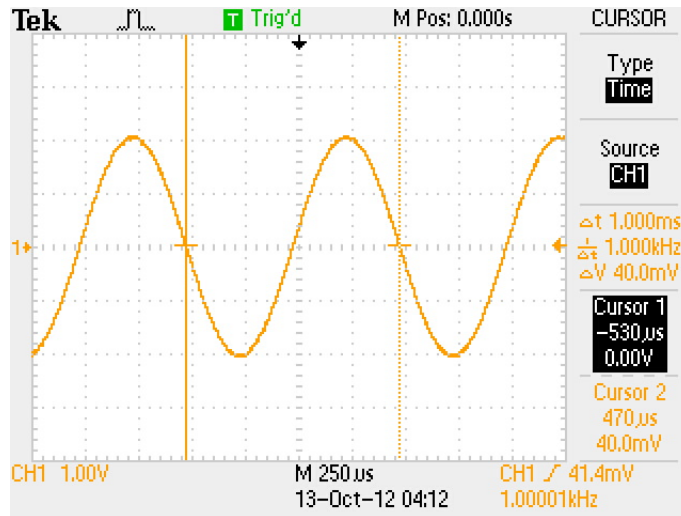

Figure 13: Cursor menu, time display
Pushing the 'Cursor' button on the panel brings up a set of menu options on the right side of the display, as shown in Figure 13. The 'Type' menu item gives the option of choosing 'Time' or 'Amplitude'. In Figure 13, the 'Time' option has been selected. This allows one to measure the time and amplitude of two waveforms between two horizontally spaced cursors. The 'Source' item chooses which waveform on which to take the cursor measurements (e.g., 'CH1 or 'CH2'). Select 'Cursor 1' (the fourth menu item) and turn the control knob on the front panel to move the left cursor to the desired position. As you turn the knob, the menu item reports the time and amplitude corresponding to the cursor's position. Then, select 'Cursor 2' (the bottom menu item) and turn the control knob to move the right cursor. The third menu item displays the measurements of difference of the time (Δt) between the cursor points as well as the equivalent frequency ($1/\Delta t$) and the difference in amplitude (ΔV).
- a. Press the 'Cursor' button to bring up the cursor menu as in Figure 13. Choose the 'Time' cursors